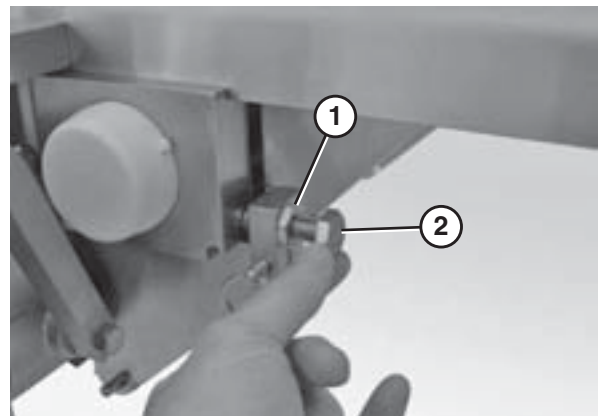

Figure 55
1. Loosen the guide plate nuts (Figure 55, item 1) on the infeed side of the center drive assembly.
2. Tighten the guide plate bolt (Figure 55, item 2) to move the belt away from that side of the conveyor.